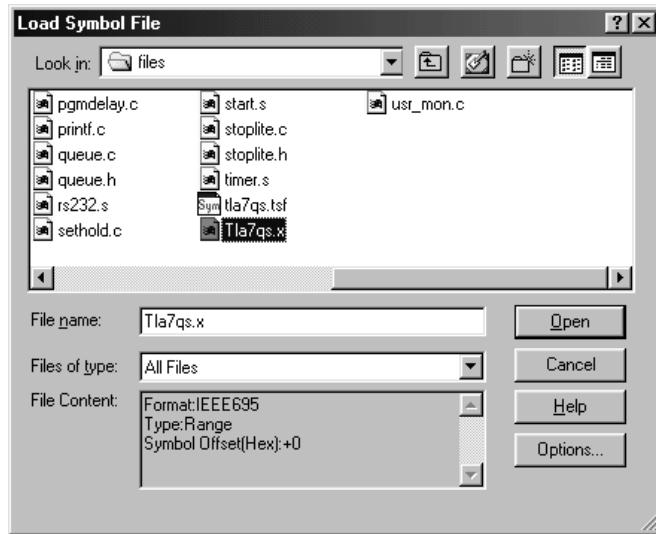

Figure 4-15: Select Symbol File dialog box
3. Browse to the C:\Program Files\TLA 700\Quick Start\Files directory. (See Figure 4-15).